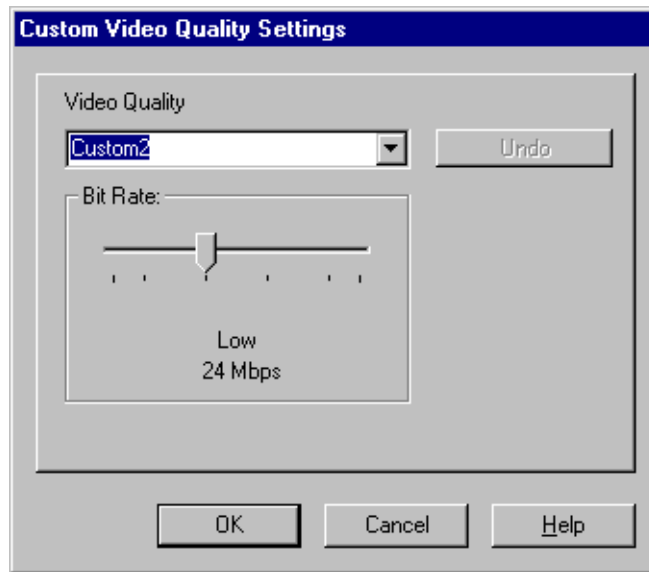

Figure 58. JPEG Custom Video Quality Settings dialog box
- For JPEG (see Figure 58 and Table 6) select a video quality with the slider. You can move the slider with the mouse or arrow keys.